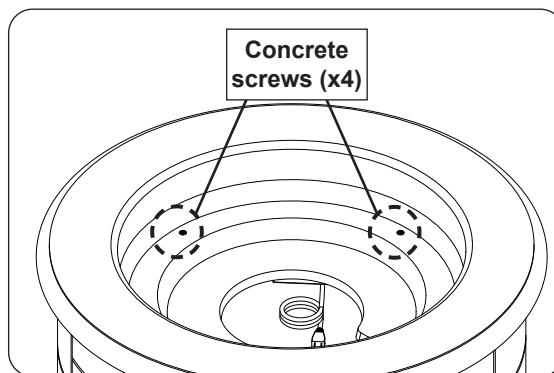

Fig. 28-2 Remove concrete screws
1. Remove the 4 concrete screws from the refractory panel (see Fig. 28-2).